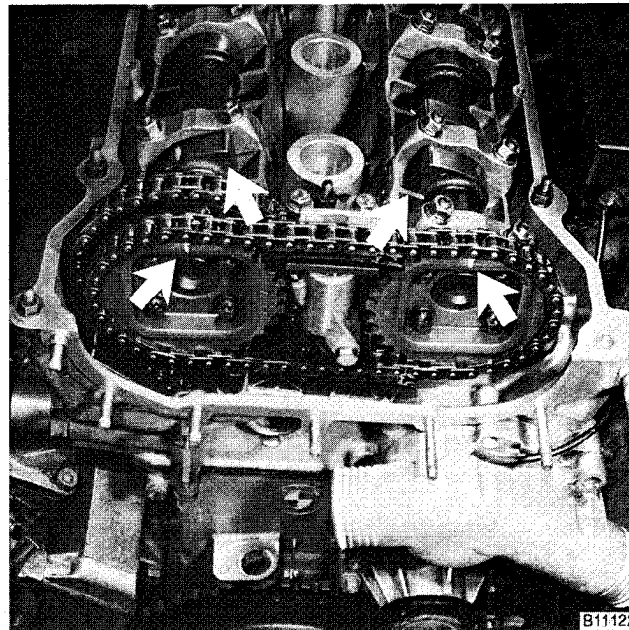

Fig. 20. Engine set to approximate TDC. Camshaft lobes face in and arrows on sprockets point up (arrows).
13. Set engine to approximate TDC by rotating in normal operating direction until camshaft lobes at cylinder no. 1 are facing each other. See Fig. 20.